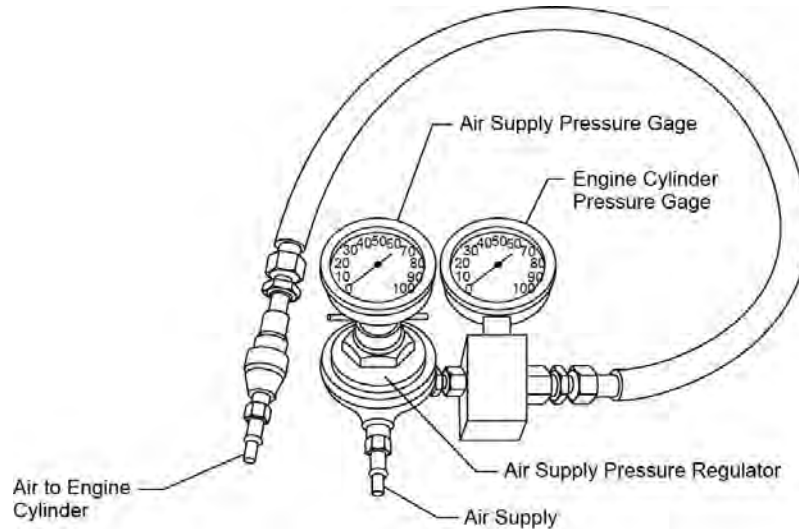

Figure 2
- J. Install a new accessory housing gasket (Figure 2) over the locating dowels on the rear of the crankcase.
A differential compression tester (Figure 2), attached to pressure gages is used for the Cylinder Compression Check. This tester operates with a given airflow through a fixed orifice and measures constant pressure drop across that orifice. This Cylinder Compression Check identifies leaks caused by incorrect valve setting, worn piston rings, damaged pistons or damaged cylinders. The static leak rate can indicate the condition of the parts in the combustion chamber. The leak rate is measured when pressure drops.